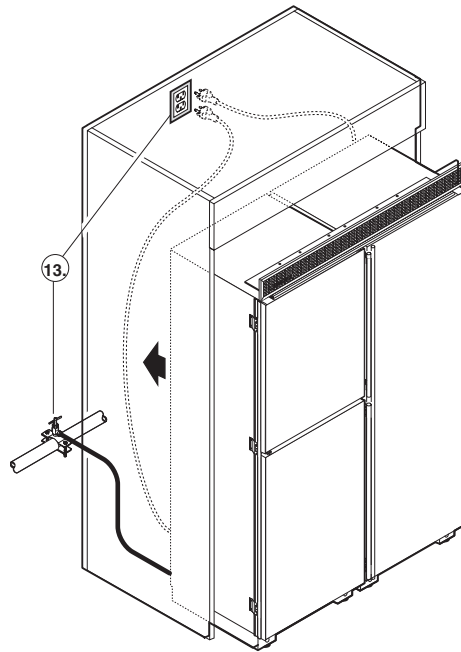

Figure 30
13. **Figure 30:** Connect the appliances: